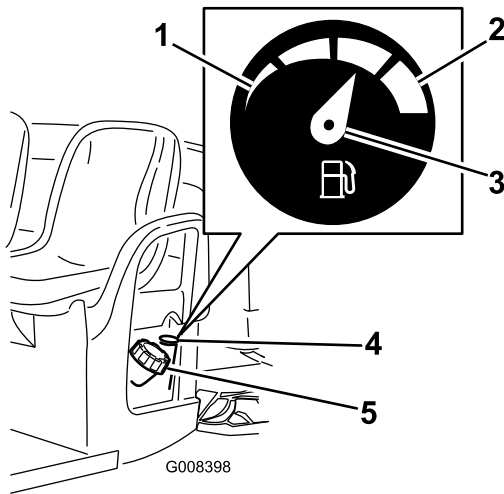

Figure 11
2. Remove the fuel-tank cap (Figure 11).